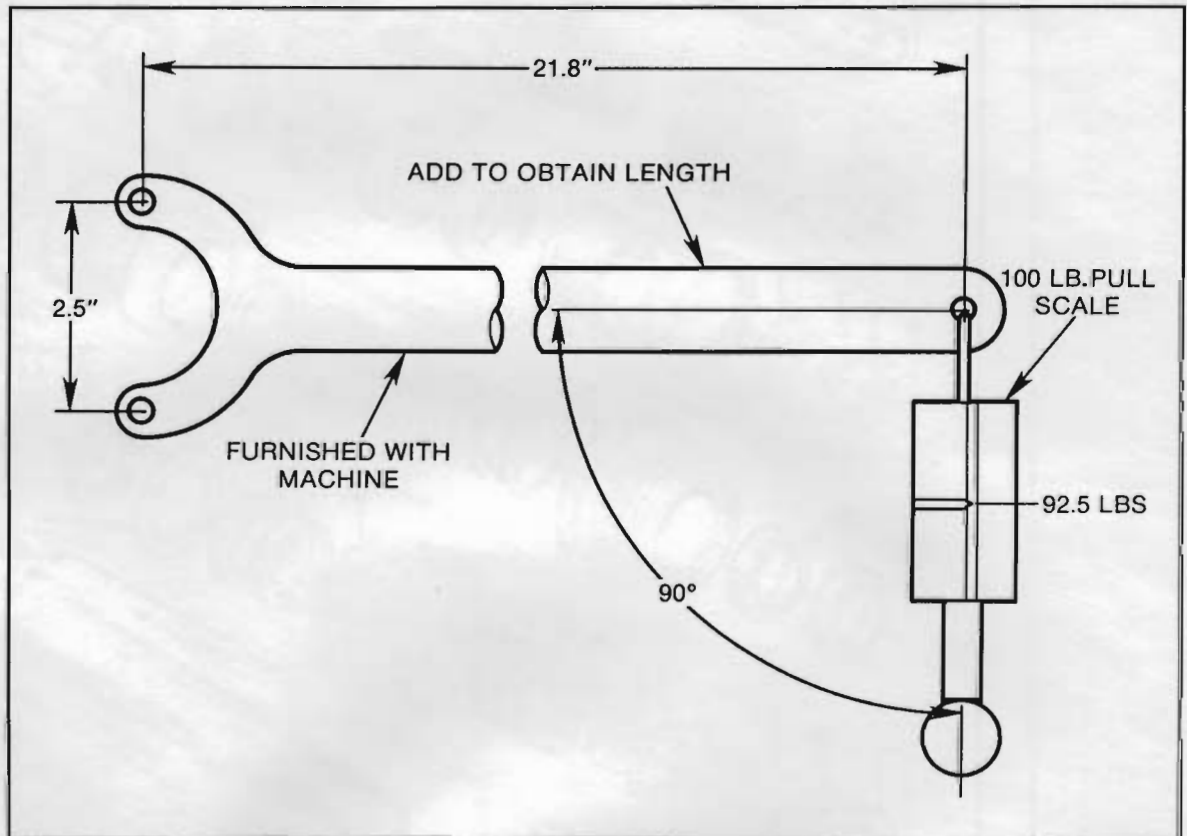

Figure 2-14
6. Assemble liner to front box and tighten Nut (54). Use the special wrench (Figure 2-14) to provide proper torque for seating front box. This is a must for obtaining correct lift.